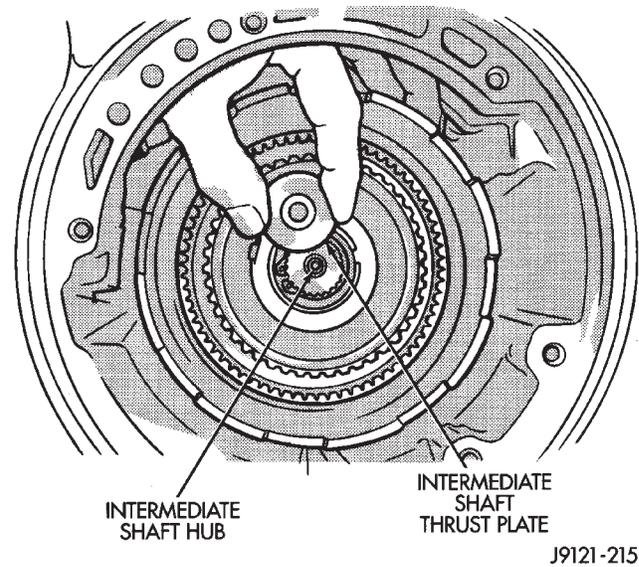

Fig. 139 Installing Intermediate Shaft Thrust Plate
(10) Install thrust plate on intermediate shaft hub (Fig. 139). Use petroleum jelly to hold thrust plate in place.